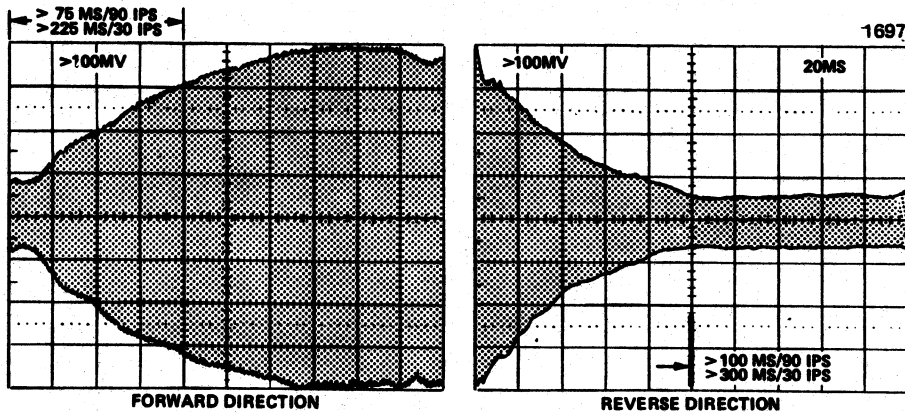

Figure 3-18. Start/Stop Time Pattern
6. Press CLR and FWD pushbuttons on BE101, then repeatedly press GO and STP pushbuttons on BE101 in sequence. Note time lapse from when oscilloscope triggers until time when modulated signal has reached amplitude of six horizontal divisions on oscilloscope screen, as shown in Figure 3-18. Time lapse should be less than 75 milliseconds for 90 ips tape drive, or less than 225 milliseconds for 30 ips tape drive.